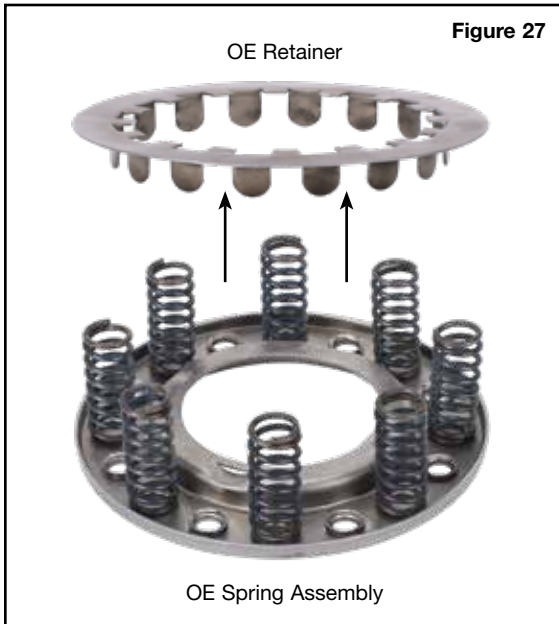

Figure 27
- a. Carefully pry off OE retainer from spring assembly (**Figure 27**).
- b. Remove every other OE spring (**Figure 27**).